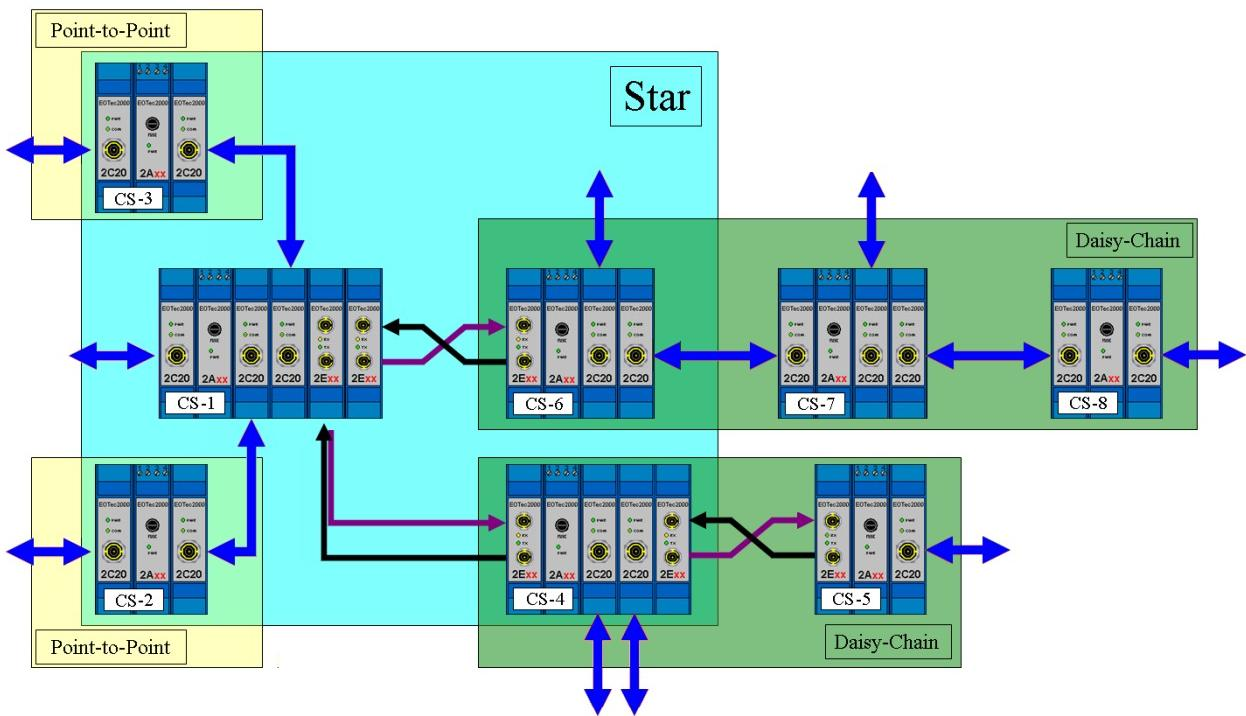

Figure 3-9
A Star configuration can be used to connect several ControlNet nodes into one network, but in this configuration there is a centrally located hub (Star hub) that connects all other nodes in the network. A star configuration can be used alone or it can be used in combination with other configurations including additional stars (see figure 3-9). A ControlNet Stack configured as a repeater will have two communication points, but a star stack can have 3 to 5 points of communication. Refer to table 3-3 for more information on the ControlNet Stacks in the configuration below.
- In a Star configuration, it is important to connect the lowest ControlNet address or moderator directly to the Star-Hub in the center of your network (shown as device CS-1 in figure 3-9). This allows module diagnostic LEDs to function best.